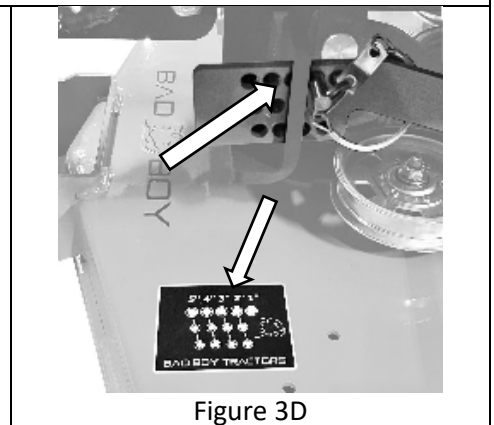

Figure 3D
3. Raise the deck and set the desired height on the Height Indicator (Figure 3D).